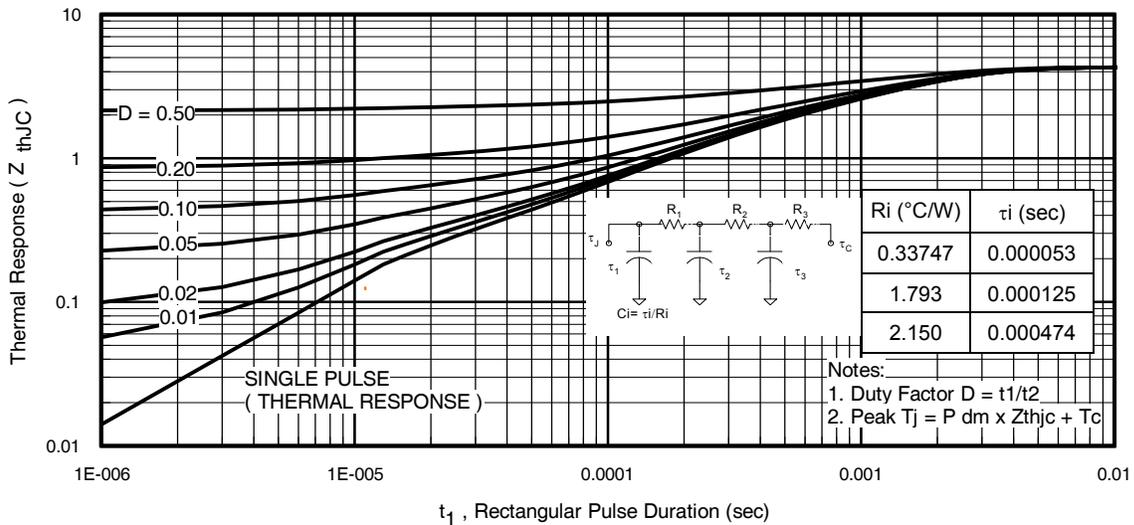
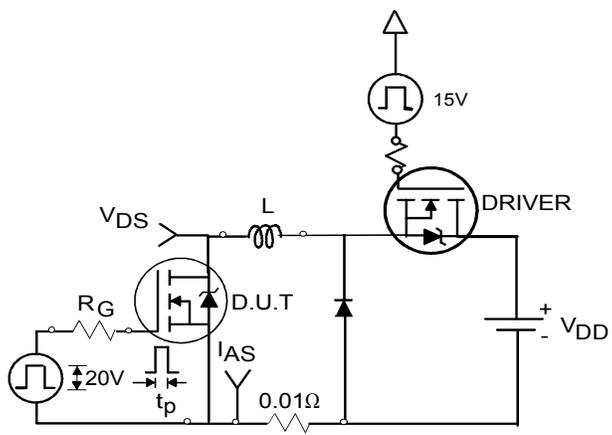

Fig 11. Maximum Effective Transient Thermal Impedance, Junction-to-Case
Fig 12a. Unclamped Inductive Test Circuit
- ① Repetitive rating; pulse width limited by max. junction temperature. (See fig. 11)
- ② Limited by T_{Jmax}, starting T_J = 25°C, L = 1.29mH, R_G = 25Ω, I_{AS} = 5.2A, V_{GS} = 10V. Part not recommended for use above this value.
- ③ Pulse width ≤ 1.0ms; duty cycle ≤ 2%.
- ④ C_{oss eff.} is a fixed capacitance that gives the same charging time as C_{oss} while V_{DS} is rising from 0 to 80% V_{DSS}
- ⑤ Limited by T_{Jmax}, see Fig.12a, 12b, 15, 16 for typical repetitive avalanche performance.
- ⑥ This value determined from sample failure population. 100% tested to this value in production.
- ⑦ When mounted on 1" square PCB (FR-4 or G-10 Material). For recommended footprint and soldering techniques refer to application note #AN-994
3. Equation below based on circuit and waveforms shown in Figures 12a, 12b.